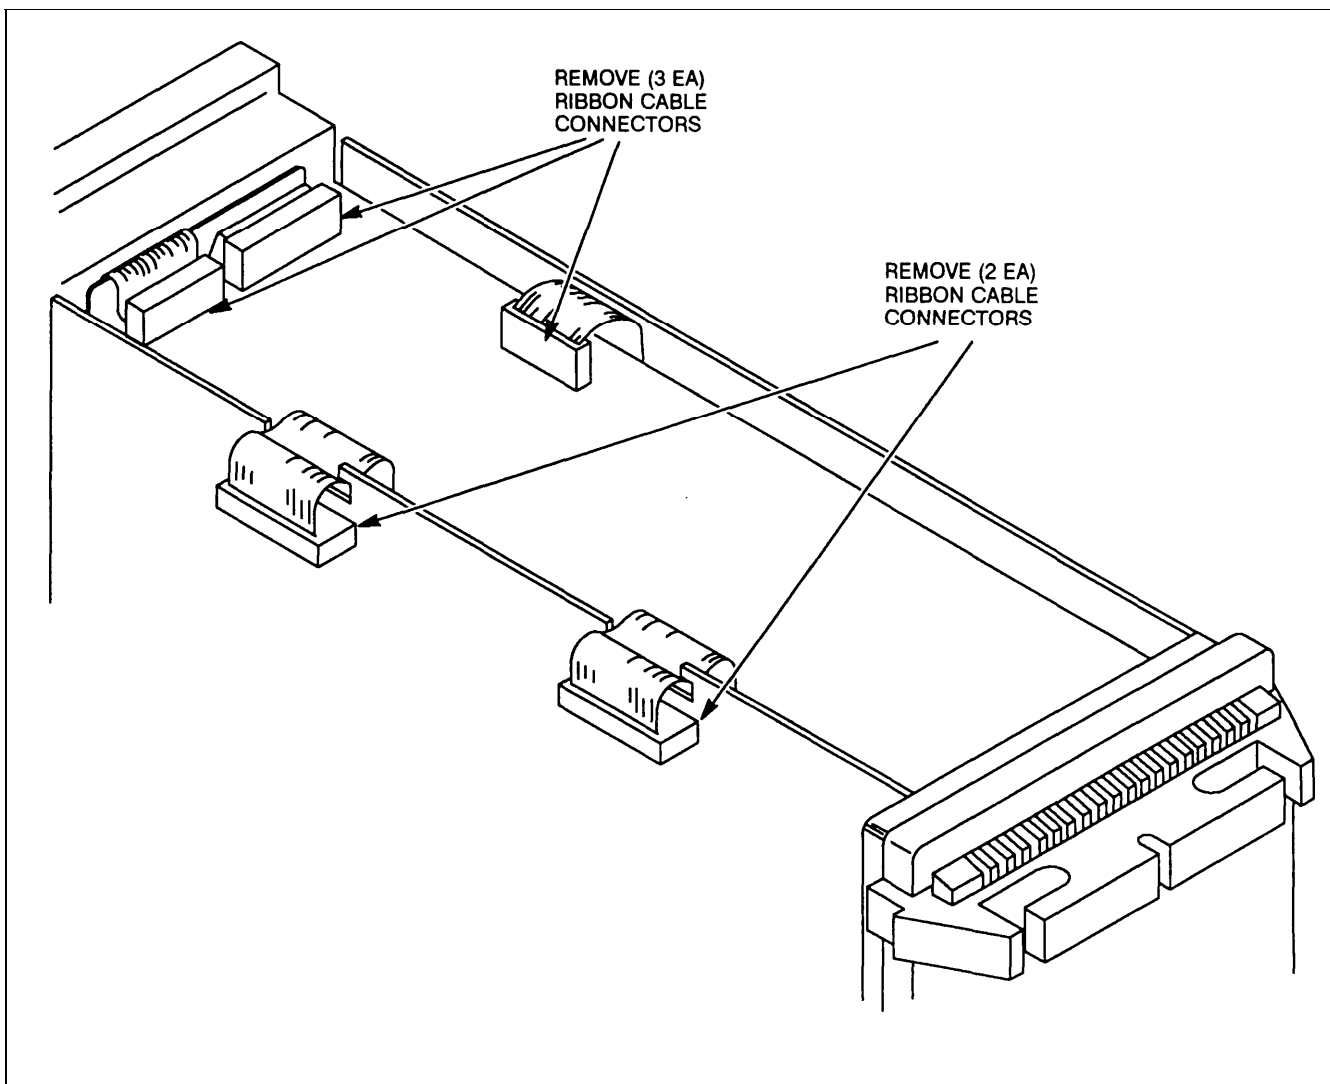

Figure 6-2. Ribbon cable removal.
3. Disconnect the two ribbon-cable and one flex-circuit connectors (P251, P651, and P652) from the Control board (see fig. 6-2).